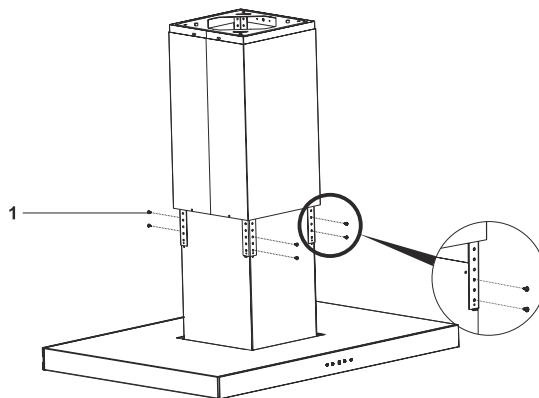

Fig. 13
2. ➔ Lift sheet metal flues up and screw the product to product hanging bars with 3.5 x 9.5 r phillips cylinder head screws (Fig. 13/1).